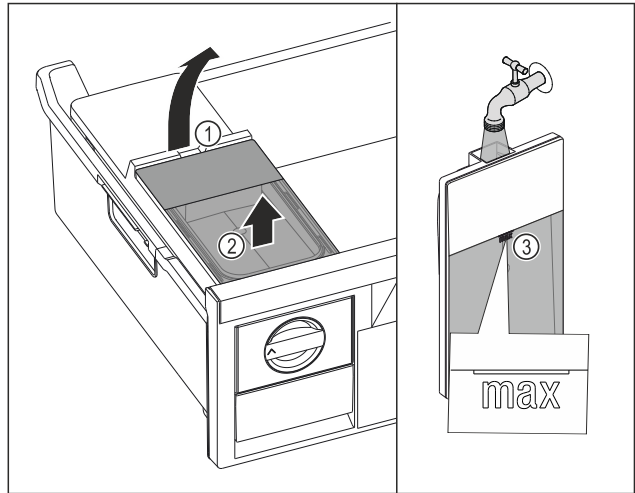

Fig. 39
- Lift the water tank at the recess Fig. 39 (1).
- Remove the water tank by lifting it upwards. Fig. 39 (2)
- Fill the water tank with drinking water up to the mark Fig. 39 (3).